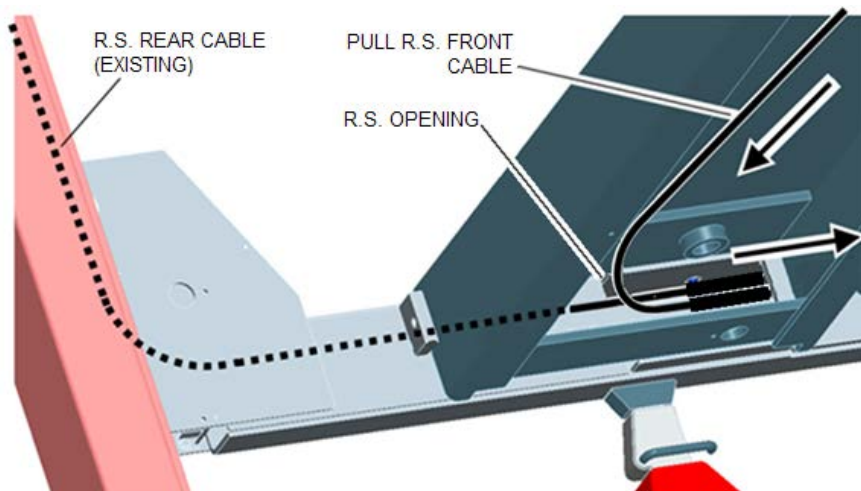

Figure 53
- On the passenger side, at the rear (**Fig.53**), take the non-threaded plugs of the rear right cable and front right cable and tape them together with the RS rear cable on top, and feed both cables thru the window of the traverse beam.